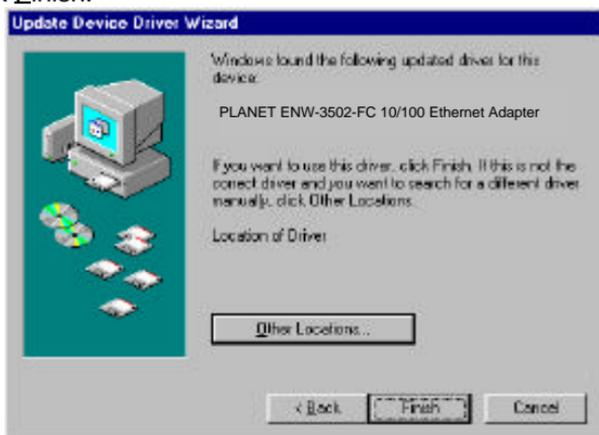

Figure 3-3.2 Found Driver
3. When Windows 95 finds the installation file from the driver diskette, i.e. "A:" and shows the window in Figure 3-3.2 on your screen, click Finish.